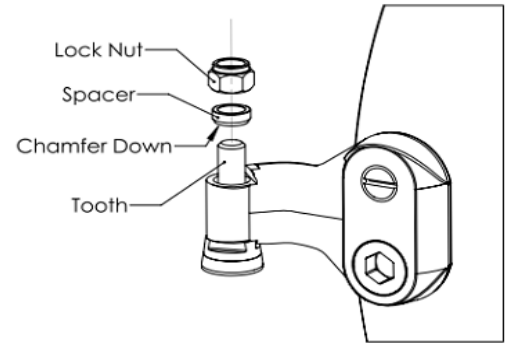

Figure 1.2
16. Install your teeth with the carbide facing down. The shoulder of the tooth will meet the flat indent of the pocket and the tooth will not rotate. Insert the spacer over shank, with the chamfer down, then thread one of the lock nuts onto the top portion of the tooth. Hand tightening is good for now. Repeat until all teeth are installed. (Figure 1.2)